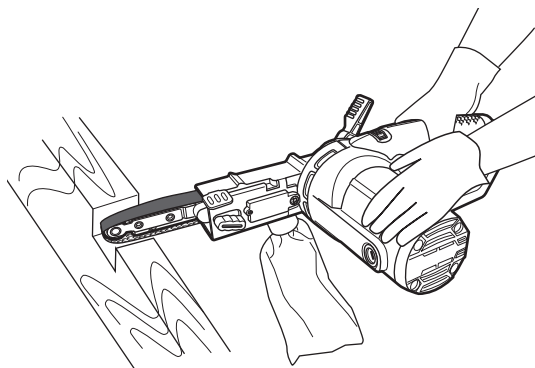

Fig. 20
- > Hold the product with the left hand on the motor housing (14) and the right hand on the handle (9) (Fig. 20).